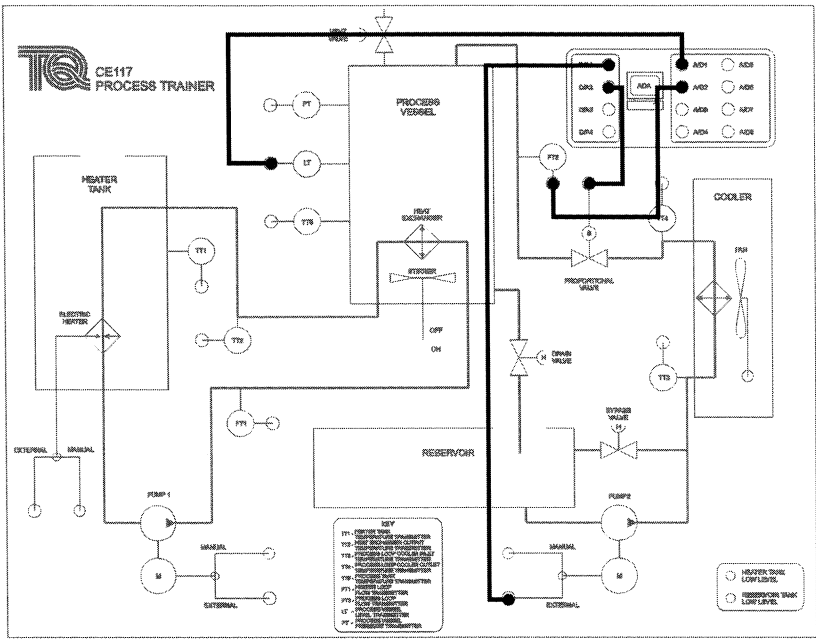

Figure 77 Connections for Experiment 8.
- 1) Start the CE2000 software and load file 'exp8-1.ict'. Connect the CE117 Mimic Panel as shown in Figure 77.